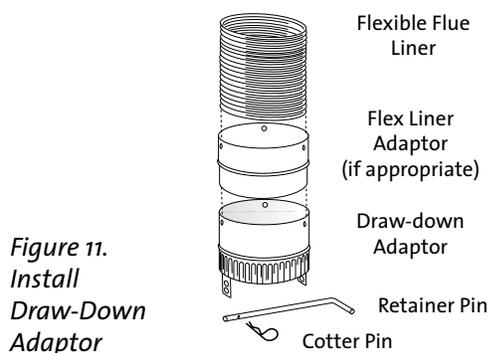

Figure 11.
1. Insert the end of the chimney flue flex pipe as far as it will go into the non-crimped end of the adaptor or, if appropriate, the adaptor that may be supplied by the flex liner manufacturer. Orient the draw-down adaptor so that the retainer pin will be parallel with the front of the fireplace. This will ease locating the cotter pin hole. Fig. 11.